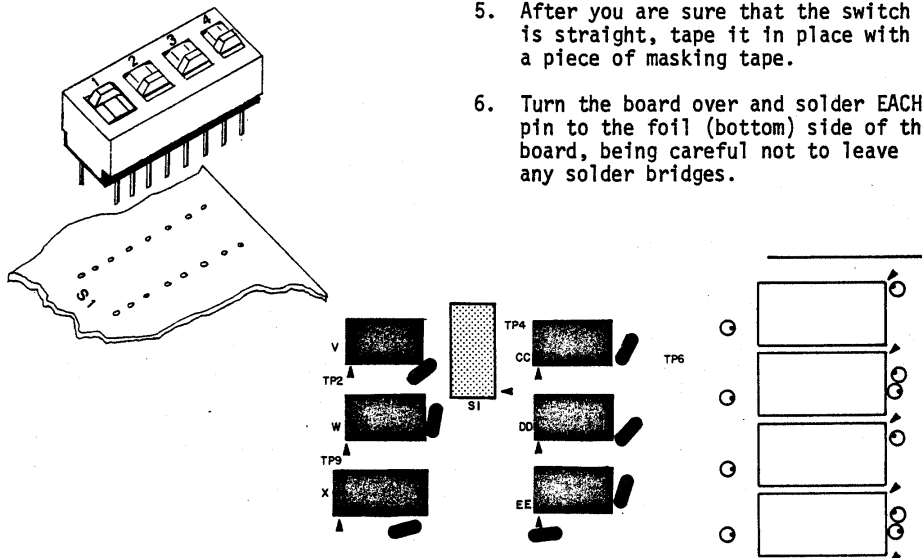

Figure 4-8. Address Switch Installation
(Figure 4-8)
2. Orient the switch so that the numbers 1,2,3,4 are above S1 as shown in Figure 4-8.